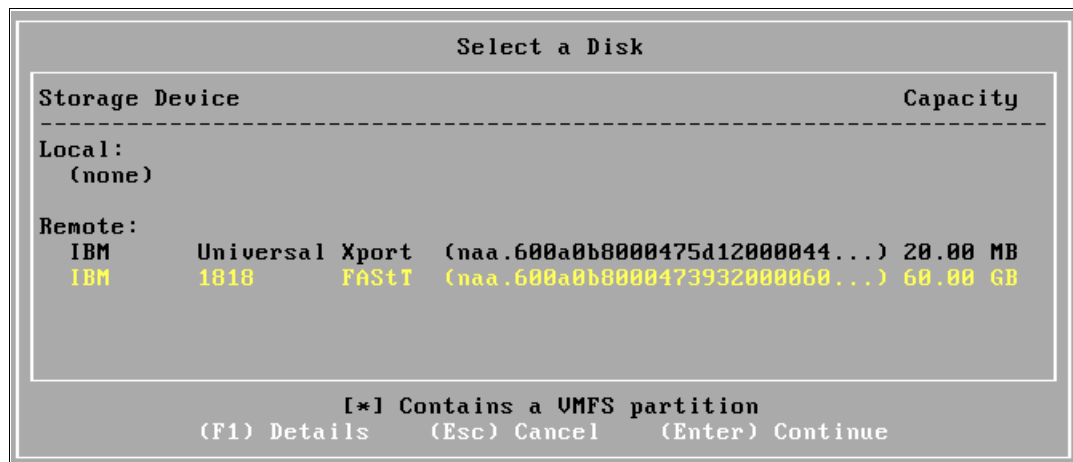

Figure 2-119 Selecting a Remote Disk
4. As we already disabled the local drives, we see no Local Drives here. We only see the Remote Storage, as shown in Figure 2-119 and we only see one instance of the drive to pick from. We select the 60 GB drive that we created for this installation and press Enter.